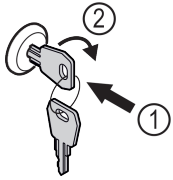

Fig. 192
- Insert key Fig. 192 (1).
- Turn key clockwise by 90° Fig. 192 (2).